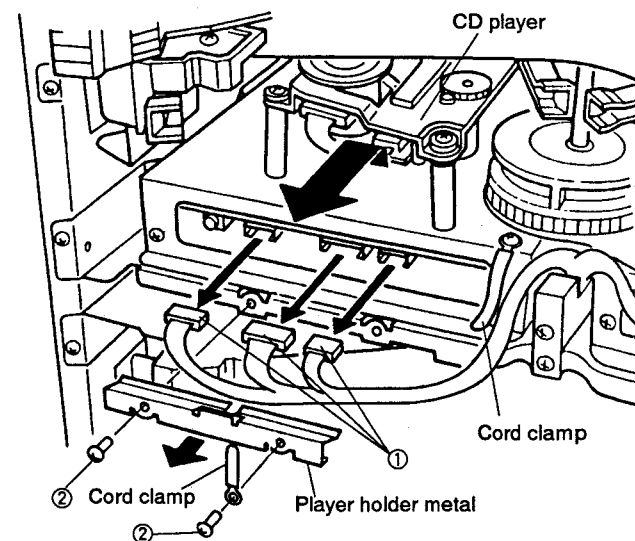

Fig.3 Disassembly the CD player
• DISASSEMBLY THE CD PLAYER (on the left side)(Fig. 3)
2. Pull to remove the wires from the cord clamp and disconnect the three connectors ①.
3. Remove the two screws ② to remove the player holder metal and move the CD player toward the front while pulling up the front side of the player about 2 mm.